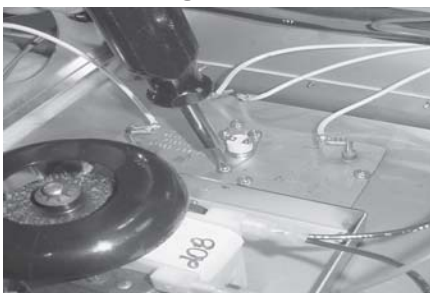

Figure 3-26
4. Remove the 2 screws securing the high limit and remove high limit. Figure 3-26.